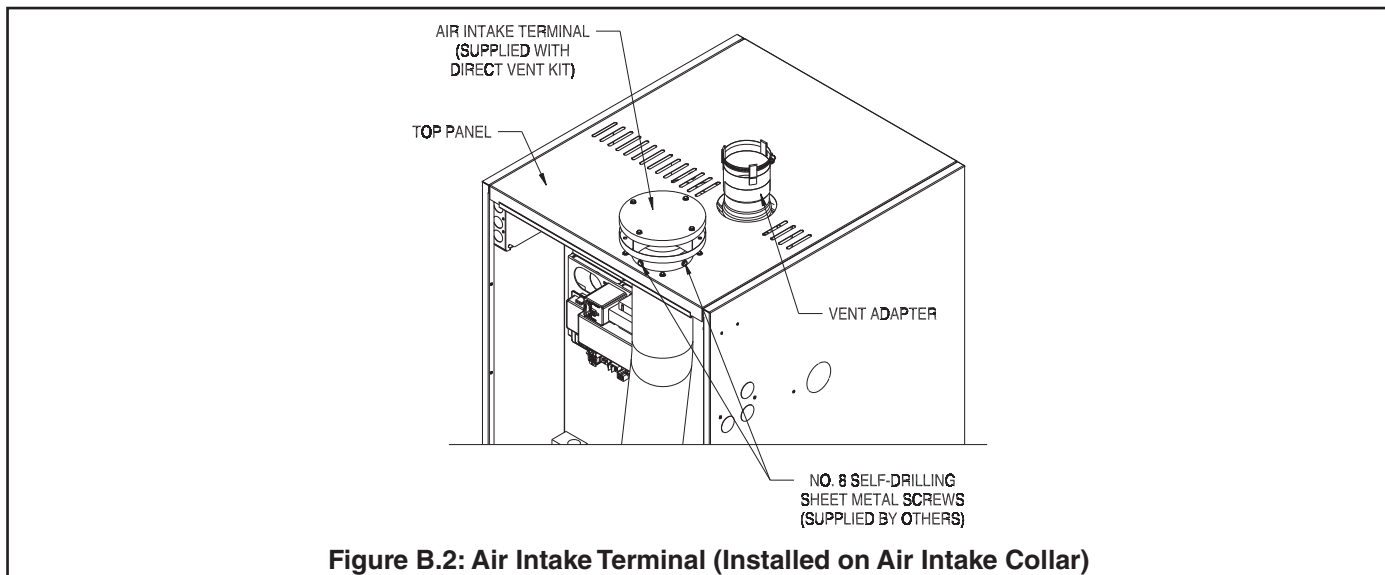

Figure B.2: Air Intake Terminal (Installed on Air Intake Collar)
- When combustion air is drawn from indoors, install the intake terminal directly on the boiler’s intake collar as shown in Figure B.2. Secure with at least two #8 self-drilling sheet metal screws (not provided).